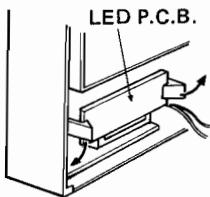

Fig. 9
4. Input switch LED P.C.B. and EQ switch LED P.C.B. are fitted to the front panel. Release the claws as in **Fig. 9** to remove the P.C.B. from the front panel.